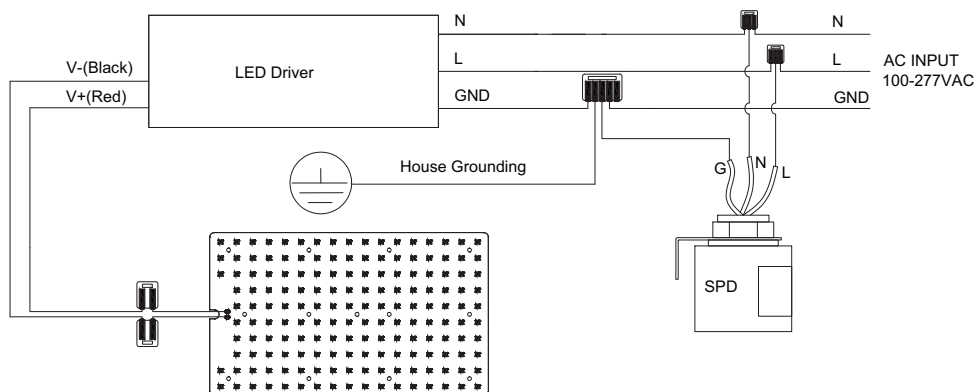

FIG.14
3. The **FIG. 14** to **FIG.16** demonstrates the interior wiring of three different configurations in the driver compartment (When need to remove or replace any component in the driver compartment, please refer to the below wiring **FIG. 14** to **FIG. 17** and base on the actual condition, resume using the fixture by wire connecting).
3. FIG.14 is for standard wiring which includes a 10kV Surge Suppressor.